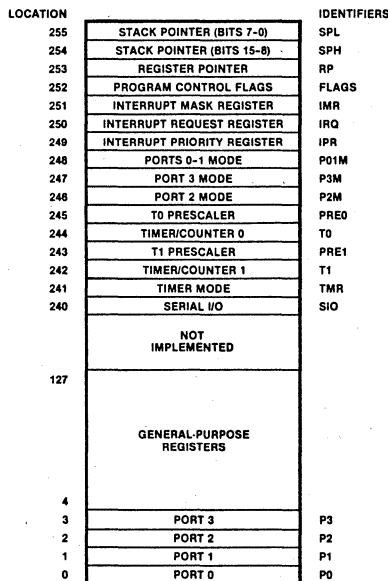
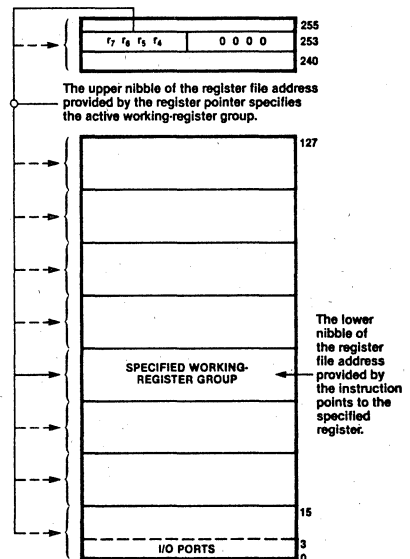

Figure 6. The Register File
Figure 7. The Register Pointer
**Register File.** The 144-byte register file includes four I/O port registers (R0-R3), 124 general-purpose registers (R4-R127) and 16 control and status registers (R240-R255). These registers are assigned the address locations shown in Figure 6.
divided into nine working-register groups, each occupying 16 contiguous locations (Figure 6). The Register Pointer addresses the starting location of the active working-register group (Figure 7).